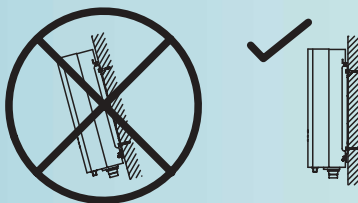

Fig. 2
- Choose a solid vertical wall that can carry the inverter's weight (Fig. 2).